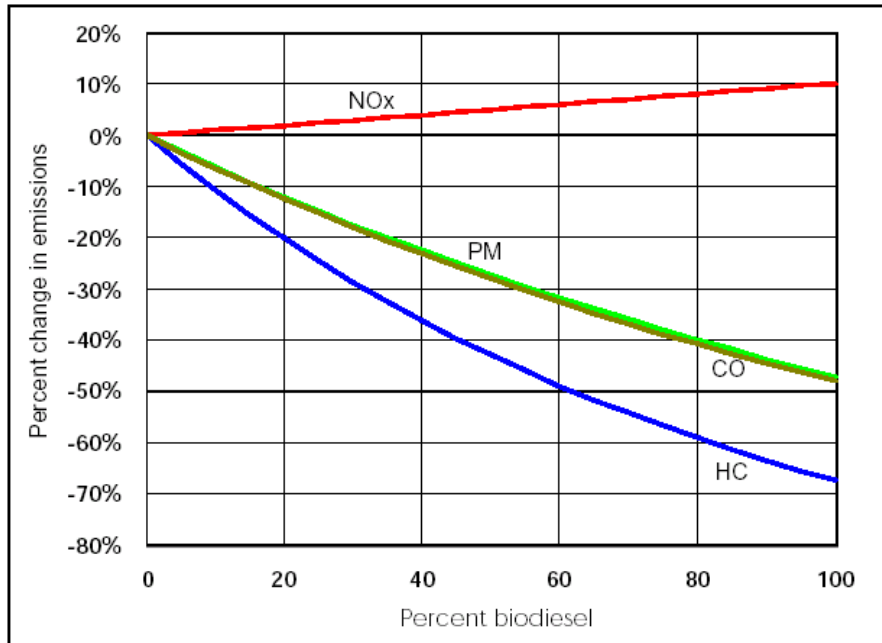

Figure 1. Average emission impacts of biodiesel fuels in CI engines6
Biodiesel reduces tailpipe particulate matter (PM), hydrocarbon (HC), and carbon monoxide (CO) emissions from most modern four-stroke CI engines. These benefits occur because the fuel (B100) contains 11% oxygen by weight. The presence of fuel oxygen allows the fuel to burn more completely, so fewer unburned fuel emissions result. This same phenomenon reduces air toxics, because the air toxics are associated with the unburned or partially burned HC and PM emissions. Testing has shown that PM, HC, and CO reductions are independent of the feedstock used to make biodiesel. The EPA reviewed 80 biodiesel emission tests on CI engines and has concluded that the benefits are real and predictable over a wide range of biodiesel blends (Figure 1, page 5).4
4 39 studies were ultimately used in the EPA analysis in Figure 1.
In older two-stroke engines, B20 can reduce CO, HC, and PM if the engines do not consume excessive amounts of lube oil. If lube oil consumption is high, PM benefits from B20 use may be less than shown in Figure 1.